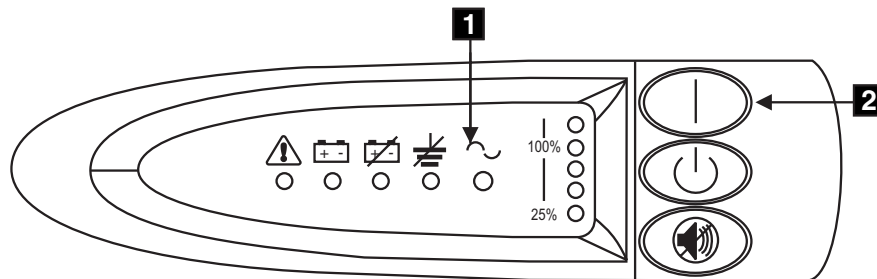

Figure 298. Power switch and indicators of the 2145 uninterruptible power supply
10. All the front panel indicators (see Figure 298) flash for a short time while the 2145 uninterruptible power supply runs a self test. When the test is complete, the mode indicator flashes to show that the 2145 uninterruptible power supply is in standby mode.